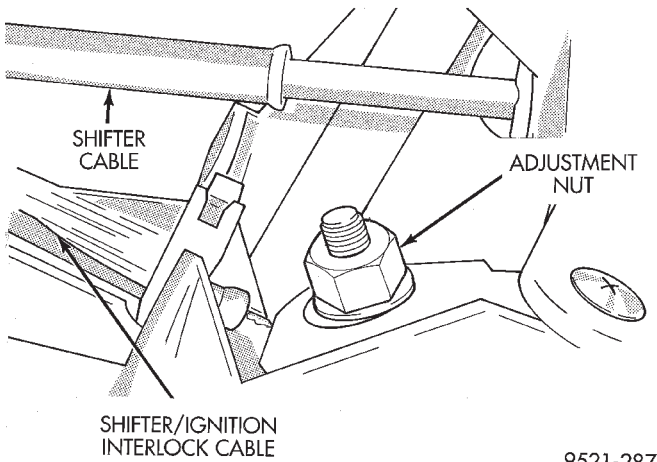

Fig. 251 Interlock Cable Adjuster Nut
(4) Loosen the adjustment nut on the interlock lever (Fig. 251).